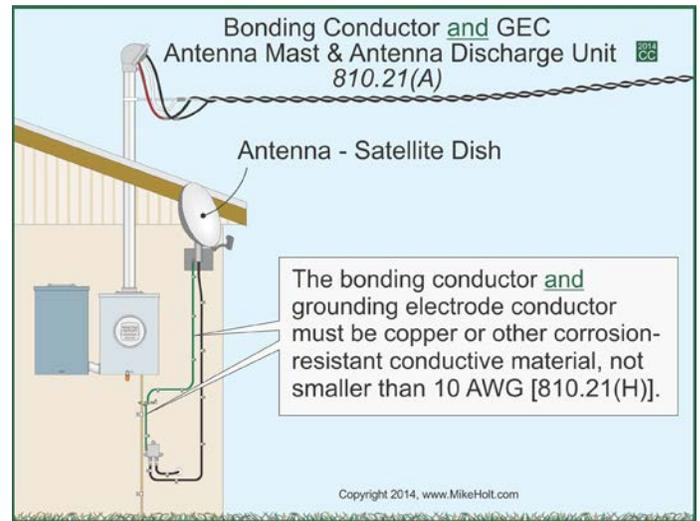

Figure 810-11
**(A) Material.** The bonding conductor or grounding electrode conductor to the electrode [810.21(F)] must be copper or other corrosion-resistant conductive material. Figure 810-11